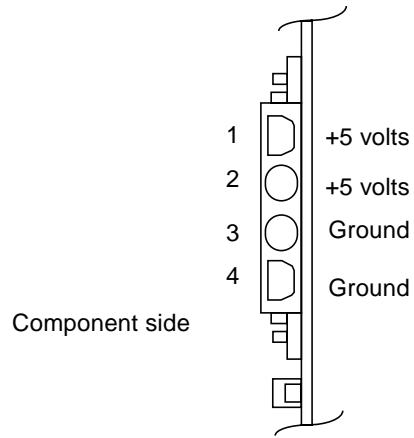

FIGURE 3-39 ATB Power Connector
- J1, J2, J3, and J4, MEMORY CHANNEL (MC) bus connectors—four connectors for the MC Bus Data, Address, Control, and Expansion cables; see also Section 3.3 “Cache Memory Card” on page 3-10:
- Power connector—the ATB card requires +5 volts from the system power supply. FIGURE 3-39 shows the details of the power connector